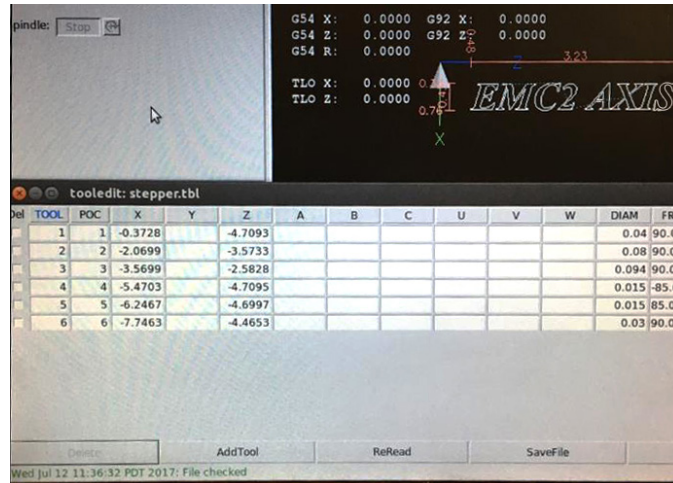

FIGURE 11—Here is a link to more information on LinuxCNC Tool Tables (<http://wiki.linuxcnc.org/cgi-bin/wiki.pl?ToolTable>)
- Your “X” is the distance from your X Home Position, to the “Centerline” of the part. You will acquire this number by making a cut on the OD of the stock, Writing down the X position shown on the position screen, Measure the diameter of the turned surface, and then adding the radius of that diameter to the X value that is shown on the position page. The sum of those two values is what you enter for your X value on the tool table (see Figure 11).